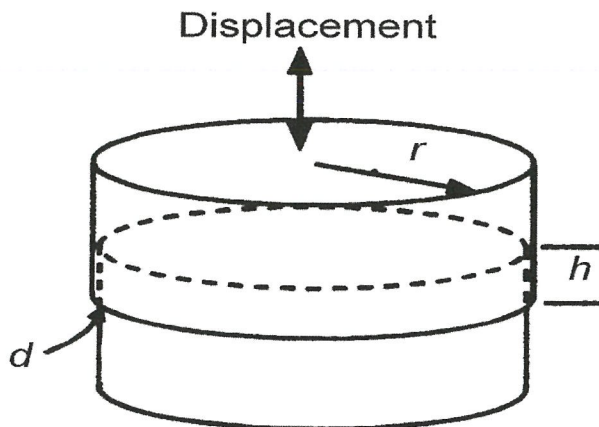

Figure Q2(c)
- (c) **Figure Q2(c)** shows a capacitor displacement sensor designed to monitor small changes in work-piece position. The two metal cylinders are separated by a plastic sheath/bearing of thickness 1 mm and the upper cylinder is free to slide in and out of the lower cylinder through a distance h . The dielectric constant is equal to 2.5 and the permittivity of free space $\epsilon_0 = 8.854 \text{ pF/m}$. If the radius $r = 2.5 \text{ cm}$, plot the variation of the capacitance of the sensor when h varies from 0.5 cm to 2 cm. (10 marks)